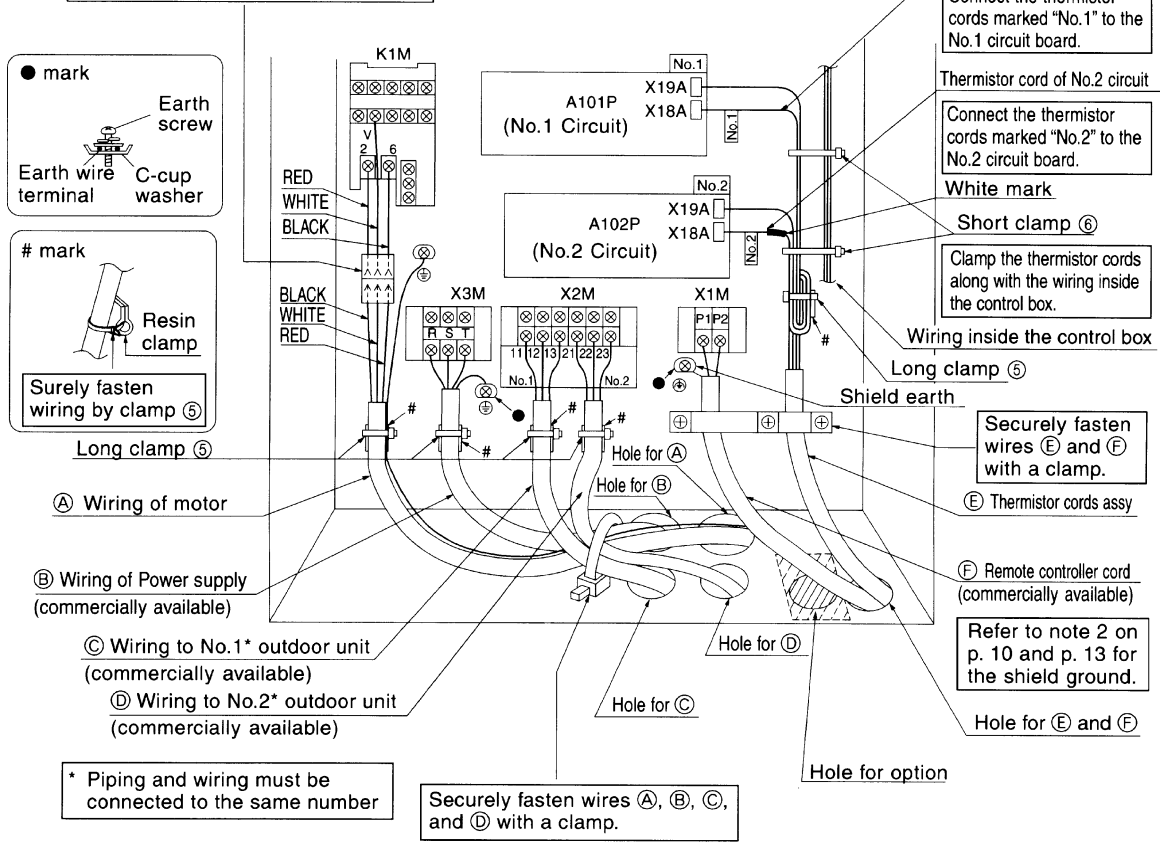

Fig. 15
2. If using shield wire for transmission wiring, ground the shield of the shield wire to “⊕”, at the grounding screw of the remote controller cord grounding terminal inside the control box. (Refer to Fig.15)